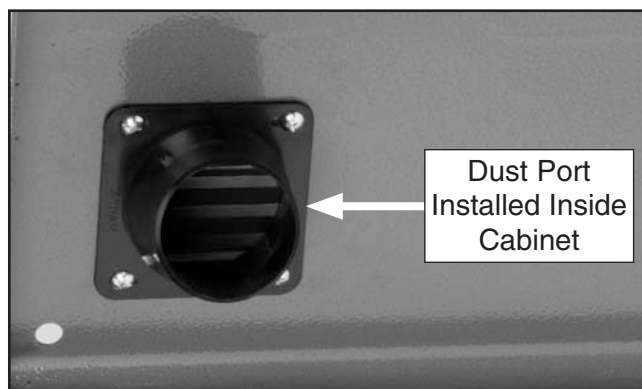

Figure 17. Dust port installation.
26. Install the dust port, as shown in **Figure 17**, with the four 10-24 x 1/4" Phillips head screws.